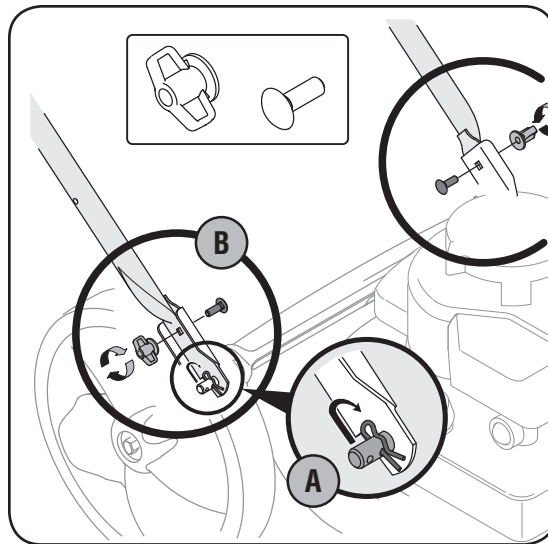

Figure 2
- a. Pull up and back on the upper handle to raise the handle from position A into the operating position B. See Figure 2.
- b. Place one carriage bolt (found in the hardware pack included with your unit) in the upper hole of the right handle mounting bracket from the inside outward. See Figure 2. Secure with one wing nut (star knobs). Repeat process on the left side.